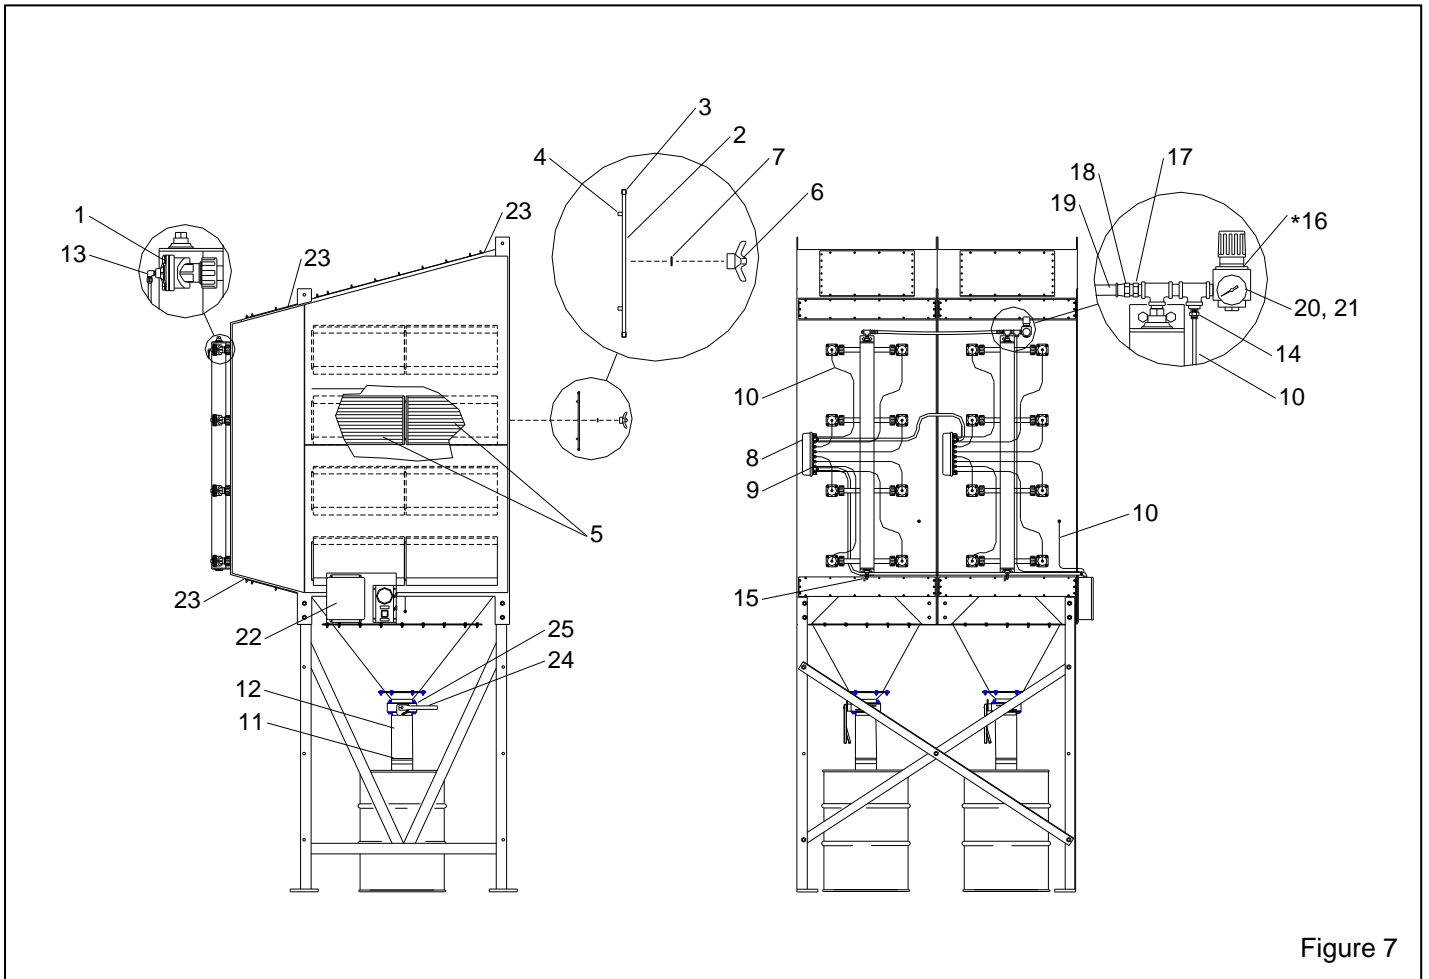

Figure 7
8.3 Common Replacement Parts, Figure 7